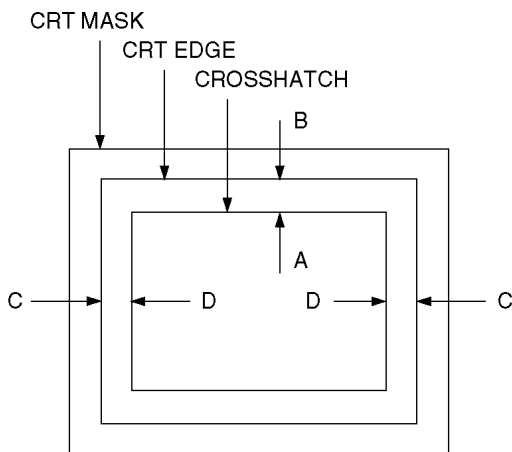

Fig. 10.
1. Adjust V-AMP (VGA 400) so that  $A=B$  in the Fig. 10.